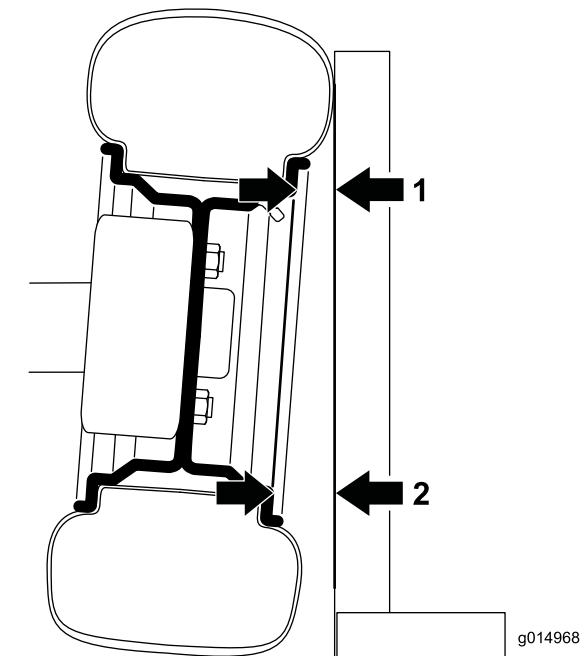

Figure 60
1. To check the camber, place a 90 degree square on the ground with the vertical edge touching the face of the tire (Figure 60).
2. Measure from the same part of the rim on the top and bottom of the tire to the square (Figure 60).